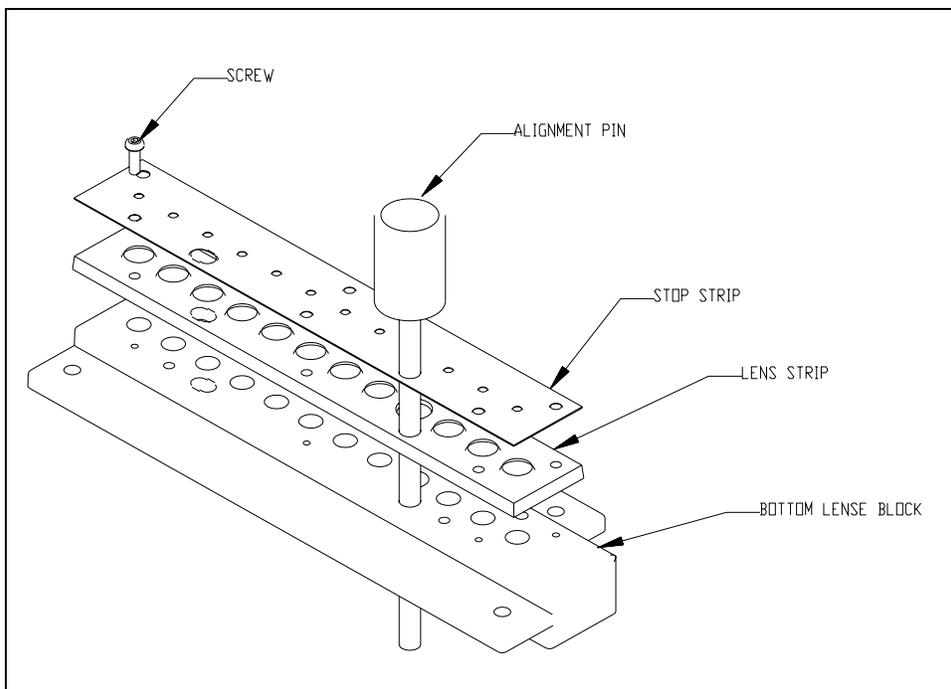

Figure 11-40 Optical Block Components
- 1 Unscrew the 6-M2 x 8mm button head screws holding the assembly together, separate the various lens components (Figure 11-40).